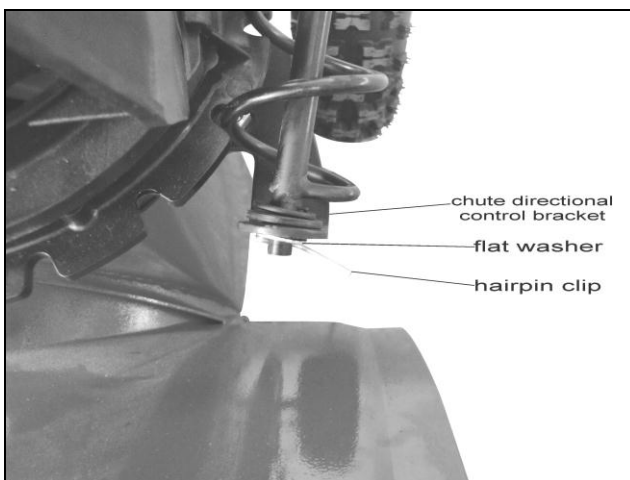

Figure 5
5. Remove hairpin clip and flat washer on the end of lower chute rod. See figure 5
6. Insert the lower chute rod through the hole of chute directional control bracket. Match the end of lower chute rod with the teeth of chute seat. See figure 5
7. Put the flat washer and hairpin clip on the end of lower chute rod. See figure 5